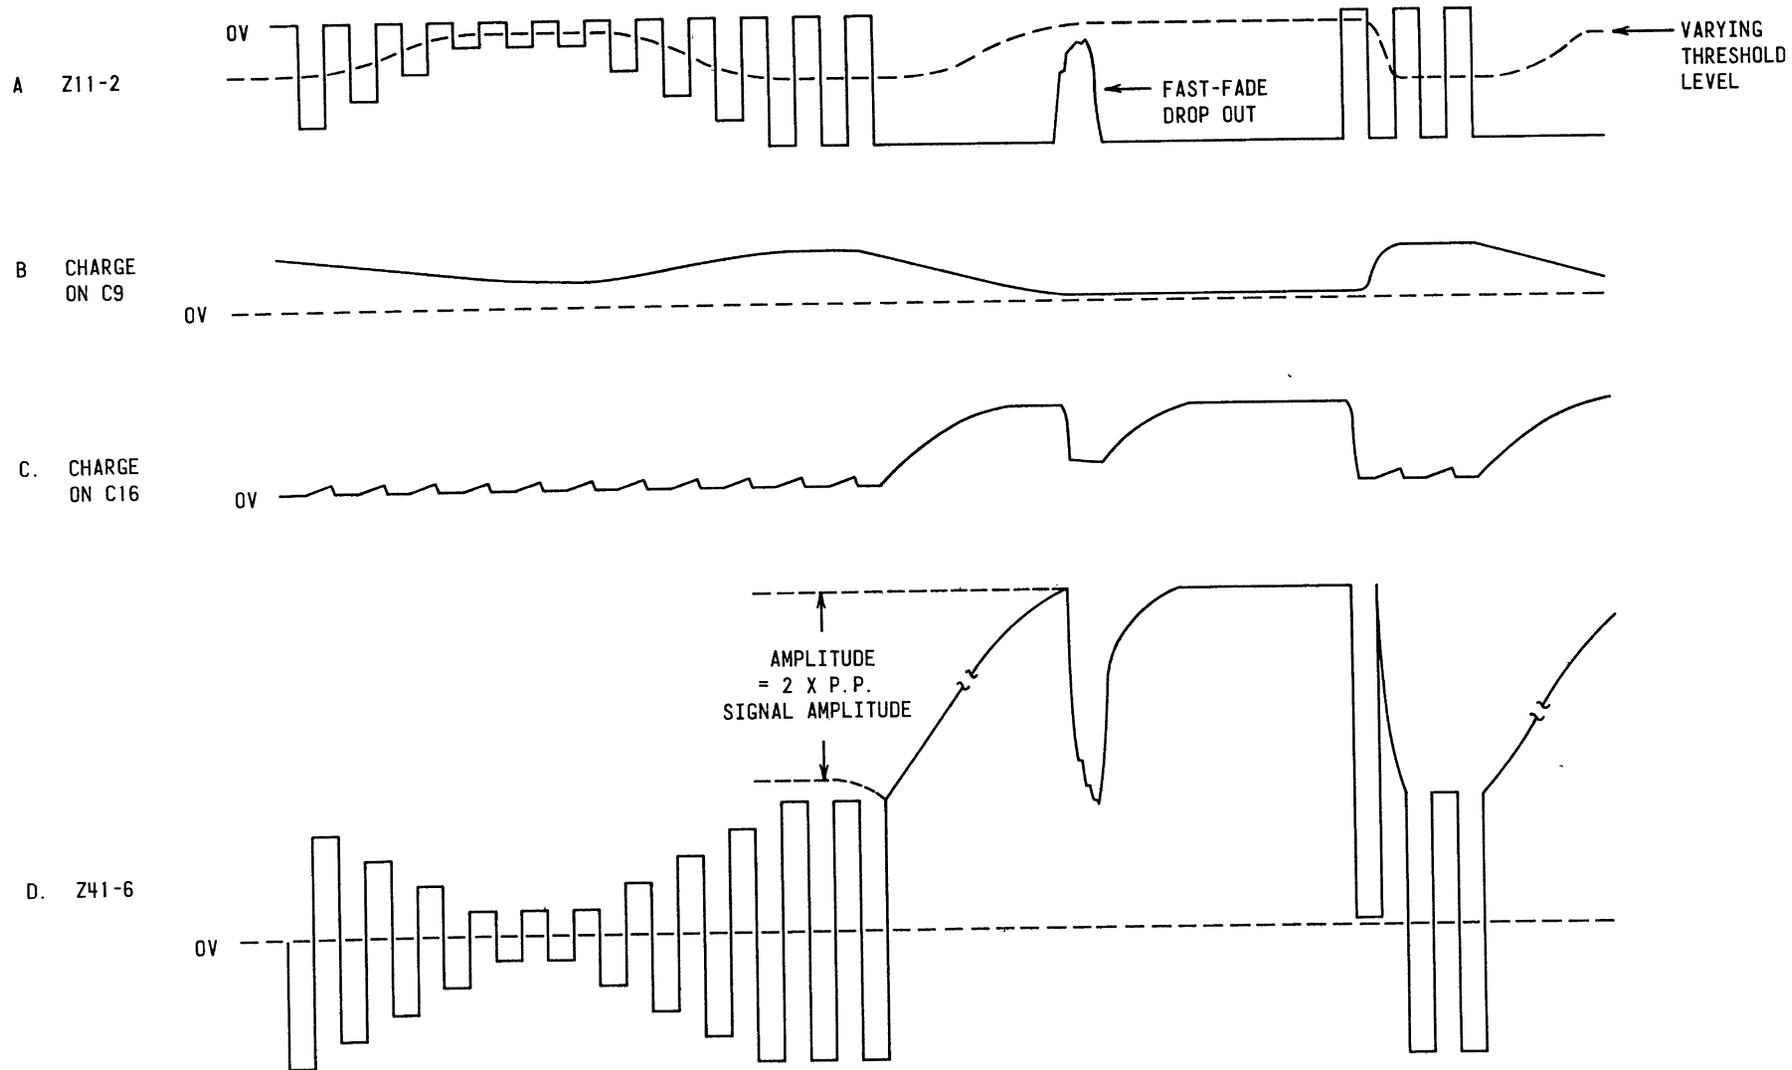

Figure 4-2. DTC Waveforms
Figure 4-2 shows typical DTC waveforms. Waveform A, Figure 4-2 illustrates the varying threshold level with respect to an input mark signal of varying characteristics. The small amplitude mark pulses would normally go undetected as mark bits. However, the varying threshold level assures sampling of bits at approximate midamplitude. The dropout of the steady mark (A, Figure 4-2) is a result of a fast-fade condition. This would normally result in false recognition of a space bit. However, the threshold level prevents circuit response to the dropout condition. An example of DTC circuit operation is given in the following paragraphs.
allowing it to follow typical fading rates (B, Figure 4-2). Note that the positive DTC capacitor charge will be such that the signal will be detected at one-half of the excursion of the negative mark input signal level, permitting accurate detection of the input signal. The threshold level is maintained at 6 db below peak amplitude. The DTC circuits improve the noise rejection capabilities of the Demodulator since the signal is shifted to midpoint for sampling.
4.2.1.5.2 Operation During Steady Mark Condition. Capacitor C16 has a relatively slow charge to rapid discharge ratio. During normal signal conditions, C16 barely charges (C, Figure 4-2). However, when a steady mark condition is present on the input, C16 charges through R68 to a positive potential determined by the series divider network consisting of R68, R52, and Q4; capacitor C9 discharges. This produces a potential at Z19-6 equal to 2 times the peak-to-peak signal amplitude (D, Figure 4-2). Zener diode CR6 prevents C16 from discharging. When normal signal is again present, C16 discharges rapidly through CR21.